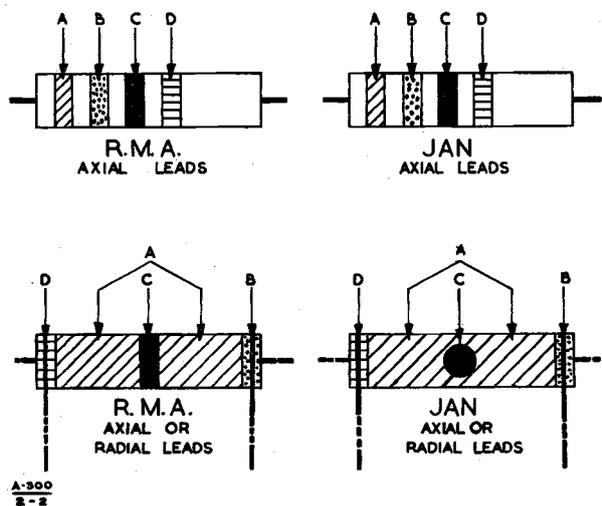

Fig 2 - USA colour coding - resistors
8. Two systems of colour coding, which differ in minor particulars, are in use in the USA. These are illustrated in Fig 2. The R.M.A 3-band arrangement is stated to be discontinued by the USA, but resistors bearing this code may still be encountered in some equipments.